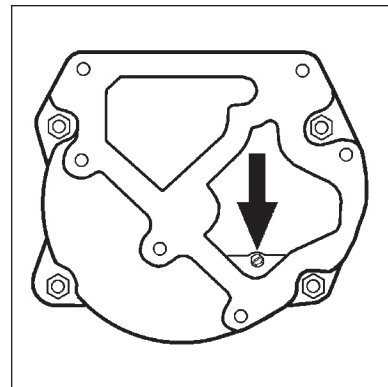

Figure 3
2. Attach ground wire using the green ground screw located inside the electrical box (Figure 3). Connect the power cable to the pump wiring per the wiring diagram located inside the electrical coverplate. Secure with wire nuts.